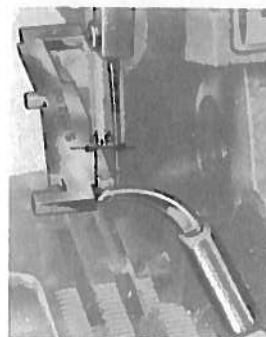

fig. 7
- The distance from the point of the secondary looper to the needle, when the looper has completed its stroke to the left, is $5/32$ inch (fig. 7).